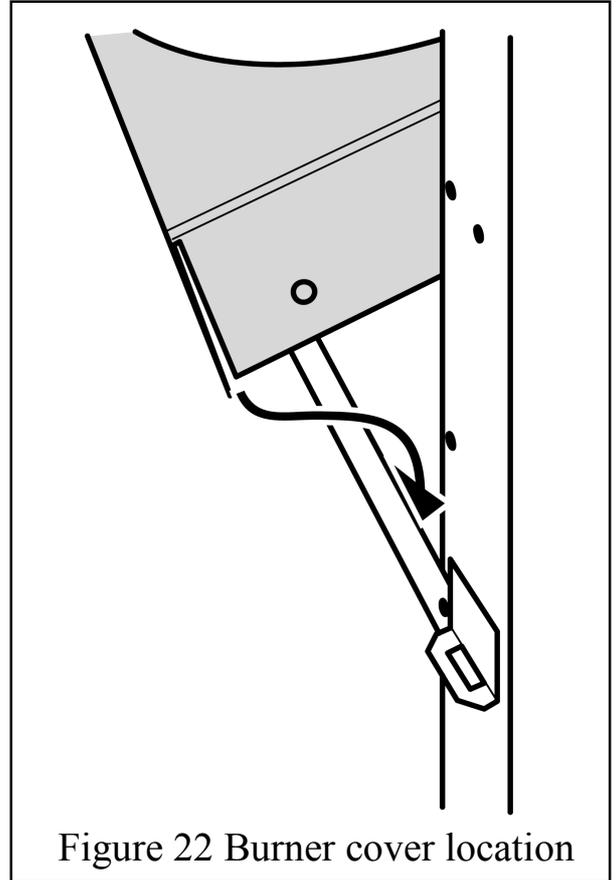

Figure 22 Burner cover location
2. Refit the burner cover by lowering it onto the burner module. The front edge of the burner cover should locate in front of the burner module. The sides of the burner cover should locate behind the front of the burner module. Secure with two screws removed previously (See figure 22)